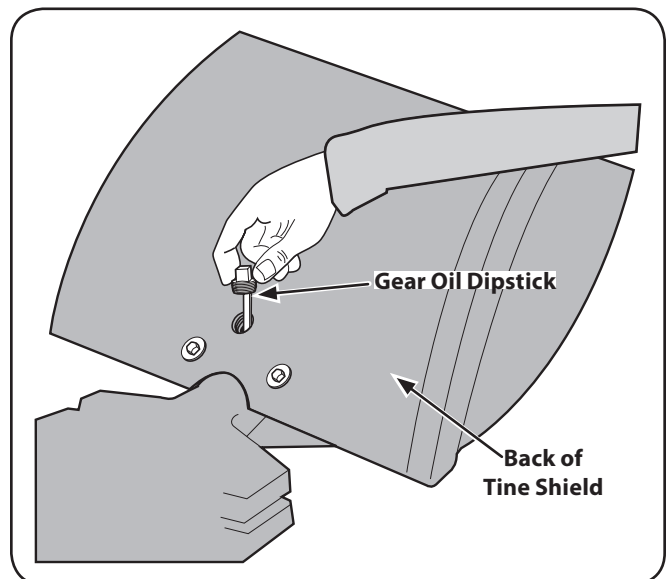

Figure 6-7
NOTE: Two different gear oil checking procedures for the tine attachment transmission are described next. Use the first procedure if the dipstick in your tine attachment has only a 'Check Cold' marking. Use the second procedure if the dipstick has both cold and hot markings at the end. First remove the dipstick from the tine attachment transmission to see which type dipstick you have. See Fig. 6-7. Then replace the dipstick with the markings on dipstick facing to rear.
6. Loosen and remove transmission dipstick on the back of the tine shield. See Fig. 6-7. Wipe it clean with a rag.
7. Hold the dipstick so its markings face to rear of tiller. Lower it straight down into the sump hole to touch the drive shaft inside. See Fig. 6-7. Don't force or try to thread it back in; an incorrect reading will result.
2. Using a ¾" wrench (or socket), remove the bolt securing the handlebar base to the top of the transmission (prop the handlebars first to prevent them from falling). Then, unplug the Forward Interlock wire harness receptacle at the bottom of the handlebars. Set the handlebar base and bolt aside on a clean surface. The bolt hole in the top of the transmission is the gear oil fill hole. See Fig. 6-7.
3. Slowly pour gear oil through a clean funnel into the transmission. Stop when gear oil begins to flow from the oil level check hole on the left side of the transmission. See Fig. 6-7.